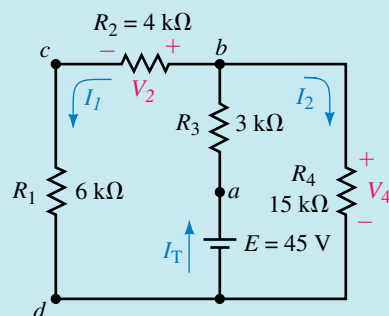

FIGURE 7-38
- a. We begin by constructing the circuit as shown in Figure 7-39. This circuit is identical to that shown in Figure 7-38, except that the voltage source has been omitted and a multimeter (from the Instruments button on the Parts bin toolbar) inserted in its place. The ohmmeter function is then selected and the power switch turned on. The resistance is found to be $R_T = 9.00\text{ k}\Omega$.